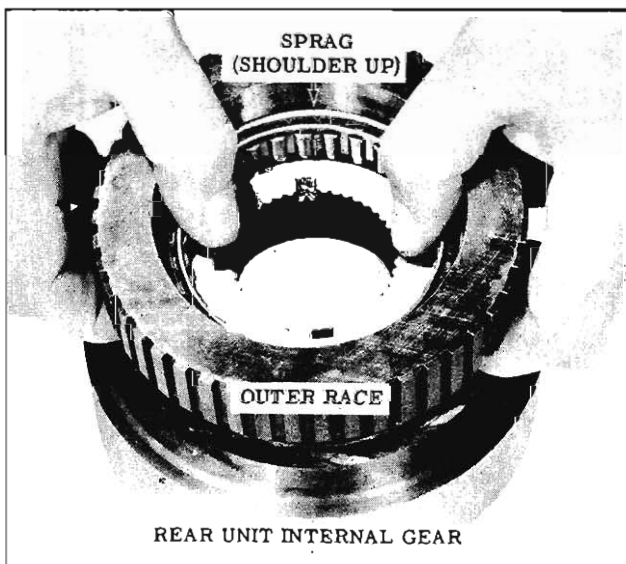

Fig. 6-81 Installing Sprag
3. With shoulder side of sprag up, start sprag and outer race over internal gear hub. (Fig. 6-81)